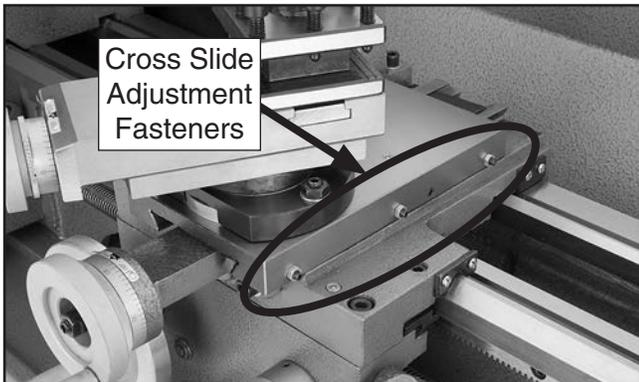

Figure 92. Cross slide gib adjustment hex nuts and set screws.
2. Loosen the three hex nuts on the side of the slide (see **Figures 92–93**).